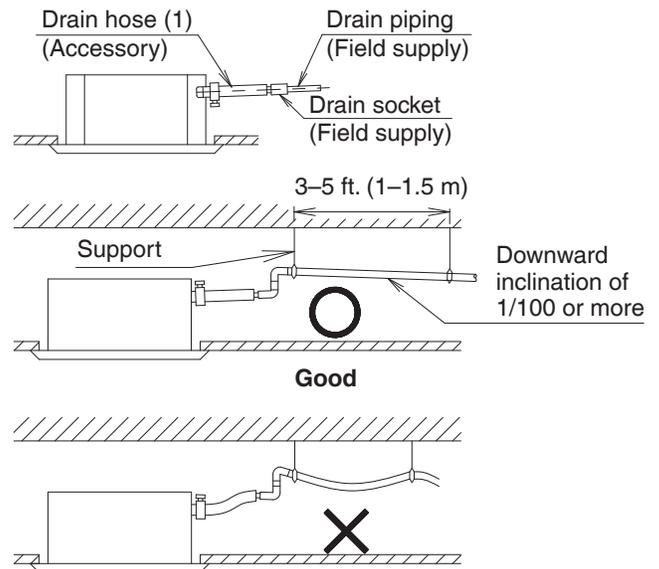

Fig. 14
- Install the drain piping as short as possible with downward inclination of 1/100 or more where air cannot stagnate. (Refer to Fig. 14) Bubbling sound may occur.
- Install supports at a distance of 3–5 ft. (1–1.5 m) so that the piping may not deflect. (Refer to Fig. 14)
- Make sure to use the attached drain hose (1) and the metal clamp (2). Insert the drain hose (1) into the drain socket up to the point where the socket diameter becomes larger. Put the metal clamp (2) to the taped hose end and tighten the metal clamp (2) with torque 1.00±0.11 lbf-ft. (1.35±0.15 N·m).